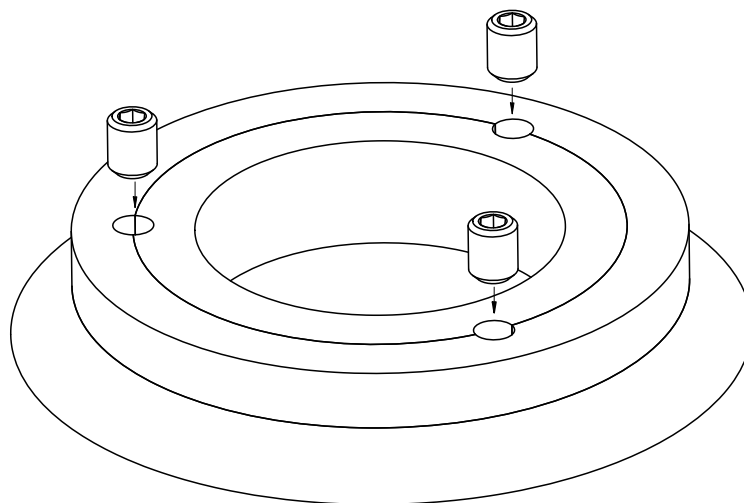

Figure 6: Locking the wear ring.
- 4 Both wear rings then have to be secured. Drill 3 holes $\varnothing 5$ mm, 9 mm deep, right on the seam between impeller and wear ring c.q. pump casing and wear ring. Subsequently cut screw thread M6 (see figure 6).